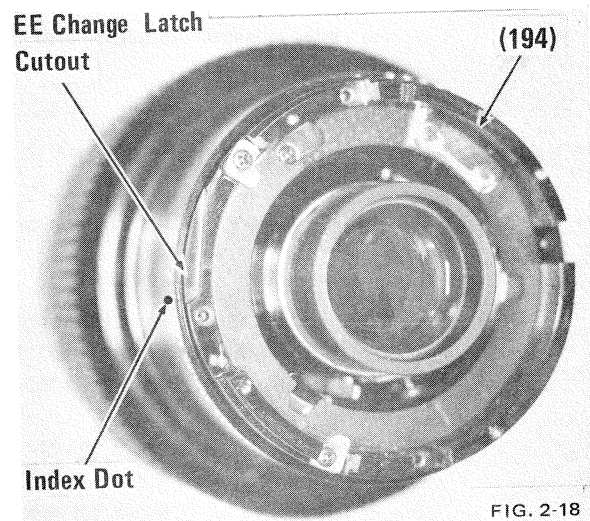

FIG. 2-18
- f) Lift off mount, mount frame (A) (194). Fig. 2-18.
- a) Place mount frame (A) (194) on the lens so that EE change latch cutout aligns with lens mounting index dot on index ring. Fig. 2-18.